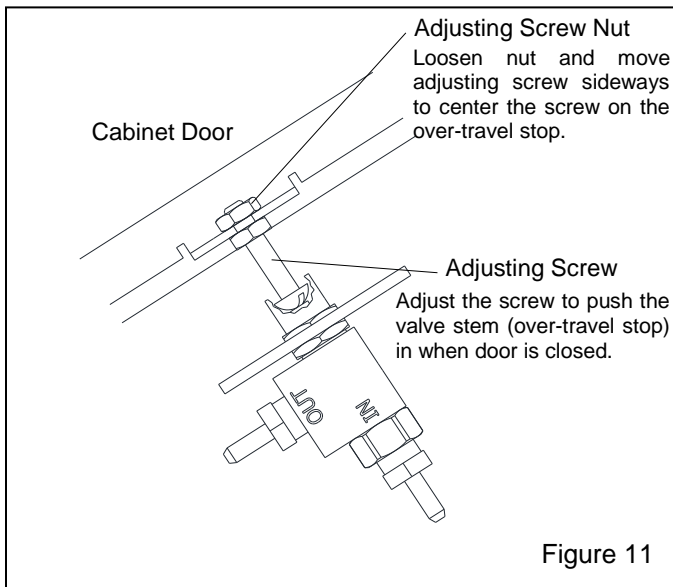

Figure 11
**7.3 Door Interlocks – Figure 11**